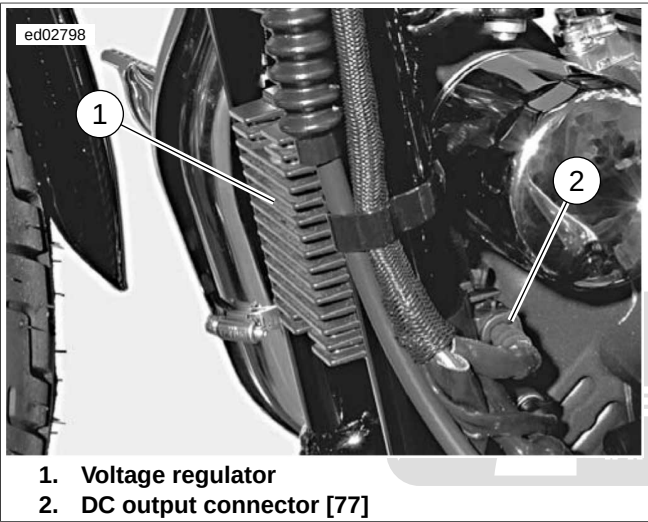

Figure 1-18. Voltage Regulator (Typical)
See Figure 1-18. The voltage regulator (1) is a series regulator with shunt control. The circuit combines the functions of rectifying and regulating.